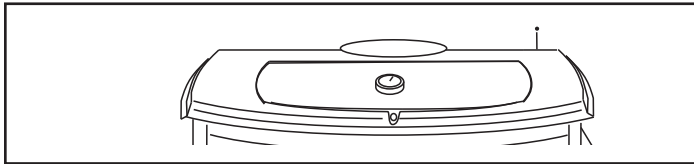

Figure 38 - Take temperature readings with a thermometer located in the middle of the griddle.
4. **If your Defiant® has been broken-in previously** using Steps 1-3, continue to build the fire gradually. Add larger wood with a diameter of 3-4" (75-100 mm). Continue adding split logs of this size to the briskly-burning fire until there is a glowing ember bed 2-3" (51-75 mm) deep. (Figure 38) A good ember bed is necessary for proper functioning of the combustion system.
An optional surface thermometer tells you when to adjust the air control, and when to refuel. (Figure 38)